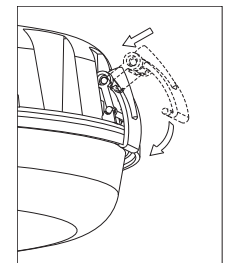

Fig. 9
19. **Install Diffuser (10) by placing onto** housing and securing with Latches (2). Hook Latch under lip of Diffuser and press inward on latch body. **See Fig. 9, D.**